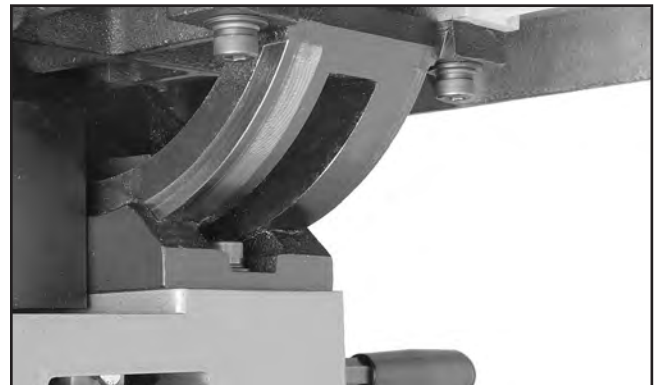

Figure 73. Trunnion lubrication location.
3. Apply a very thin coat of light, all-purpose grease to the trunnions (see **Figure 73**).